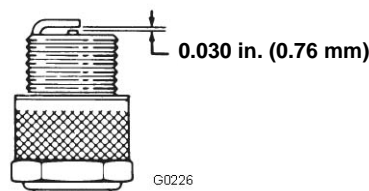

Figure 28
5. Set the gap on the plug to 0.030 in. (0.76 mm) (Fig 28)